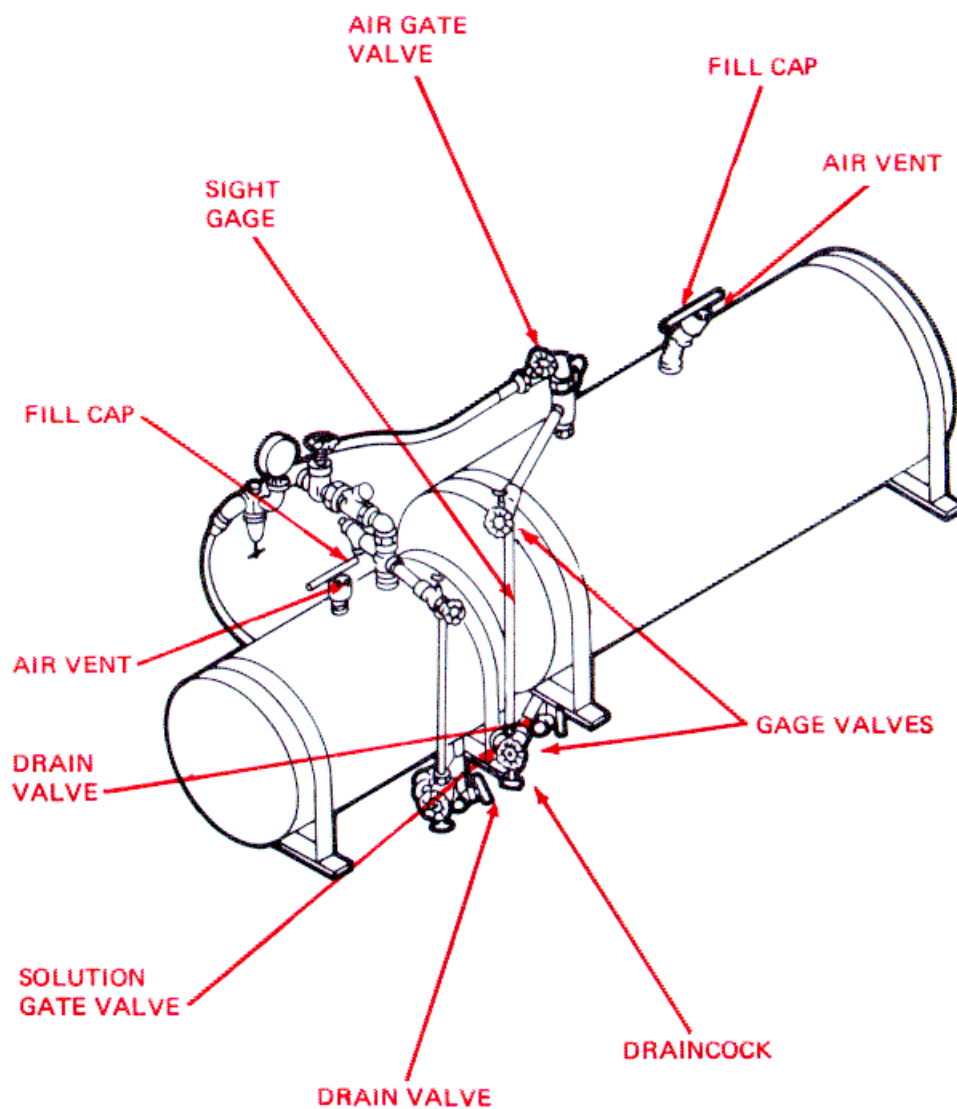

Figure 3-7. Liquid Admix Tanks.
a. Drain. (See fig. 3-7.)
- (1) Close the air gate valve (turn clockwise).
- (1) Pour the cleaning agent or water into the tank. Fill the tank about 1/3 full.
- (2) Hand tighten the fill cap (turn clockwise). Close the vent on the cap (fig. 3-7).
- (5) Open the drain valve (fig. 3-7) (turn counterclockwise). Allow the cleaning agent or water to drain.
- (6) Close the air gate valve (turn clockwise).
- (7) Close the drain valve (turn clockwise).